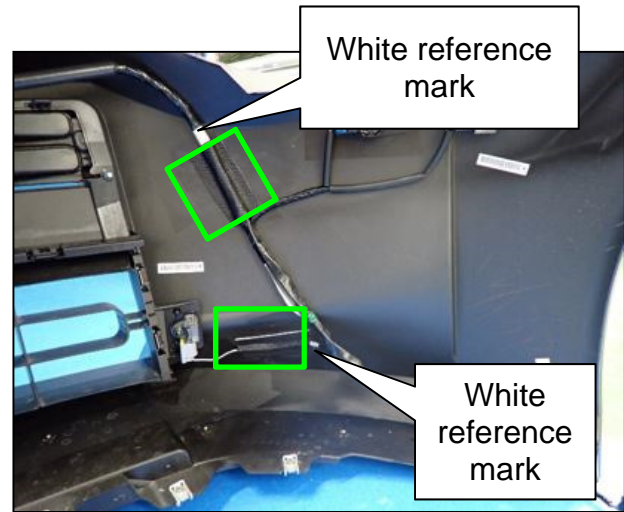
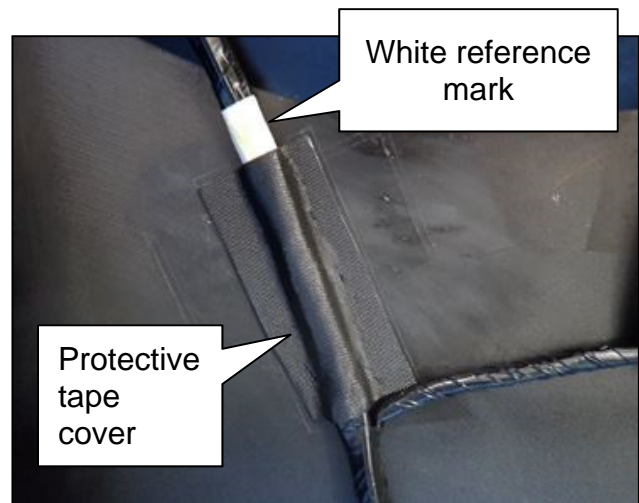
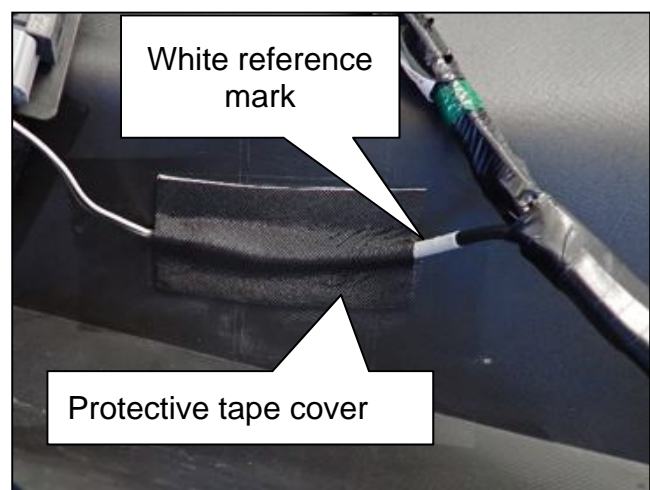

Figure 22
Figure 23
Figure 24
16. Install two (2) protective tape covers onto the passenger (RH) side front bumper fascia sub-harness in the areas shown in Figure 22.
- Align the two (2) protective tape covers using the white reference marks on the harness and the factory scribe lines on the backside of the front bumper fascia.
- Figure 23 and Figure 24 show the two (2) protective tape covers fully installed.